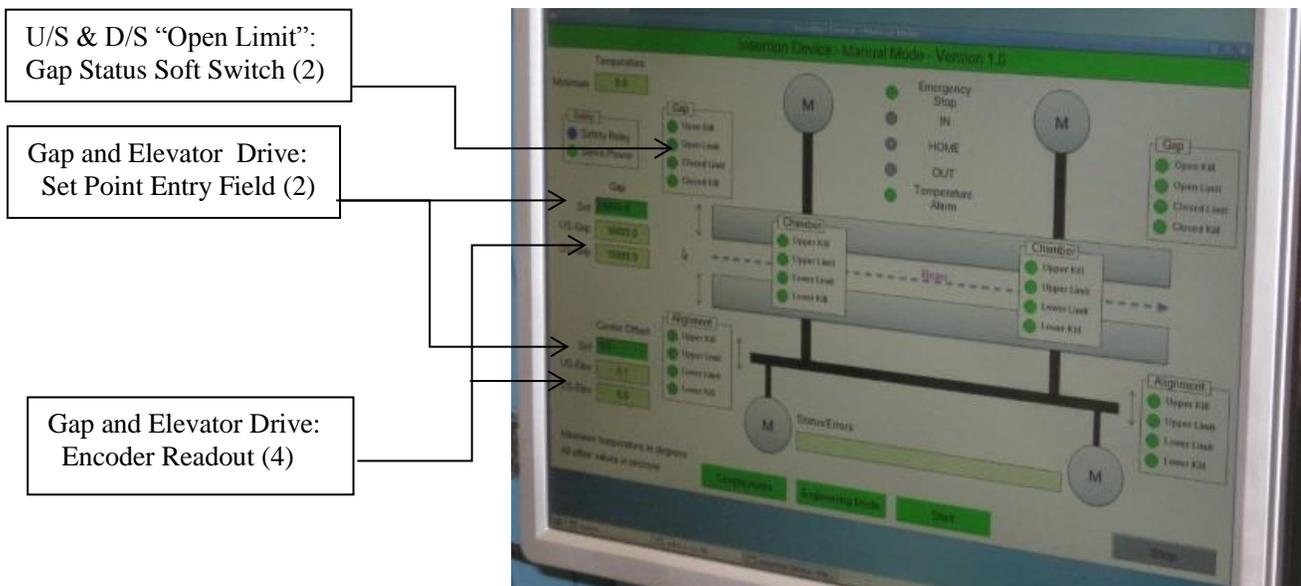

Figure 6-1: DW Control Screen
- k. Switch to Operations Mode (Manual, with green border GUI). See Figure 6-1.
6.1.4 In Operations Mode (or Manual, with green border GUI) command the Gap Drive System to drive to a mid gap position (e.g., 50 mm). See middle of Figure 6-1.
- a. Confirm that the readout on encoder position of gap and elevation has reached the set point. See bottom of Figure 6-1.
6.1.6 In Operations Mode, command the Gap Drive System to drive to full open gap. See middle of Figure 6-1.
Note: On the control screen, each GUI soft switch indicator changes from green to red as the outermost N/C gap limit contactors go from closed to open. See top of Figure 6-1.
- a. View the red status indicator of the "open limit" soft switch (top of Figure 6-1).
- b. View the gap encoder readout on control screen (bottom of Figure 6-1).
- a. In Operations Mode (i.e., Manual,) command the Gap Drive System to drive to mid gap position (e.g., 50 mm). See middle of Figure 6-1.
- a. Confirm red status indicator of the "open limit" soft switch (top of Figure 6-1).
- a. In Operations Mode (or Manual, with green border GUI), command Gap Drive System to drive to a mid gap position (e.g., 50 mm). See middle of Figure 6-1.
- a.1 Confirm that the readout on encoder position of gap and elevation has reached the set point. See bottom of Figure 6-1.